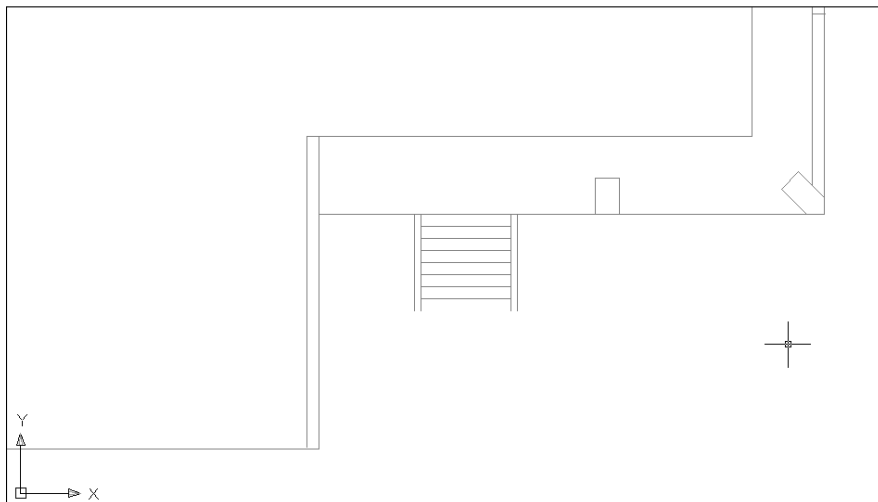

**Figure 8-6:** The new view of the drawing after using Zoom Dynamic.
12. You are back in Pan mode again. Move the Pan box to the bottom-right corner of the warehouse. Right-click and choose Enter to zoom in on this new view. Your display should look approximately like Figure 8-6.